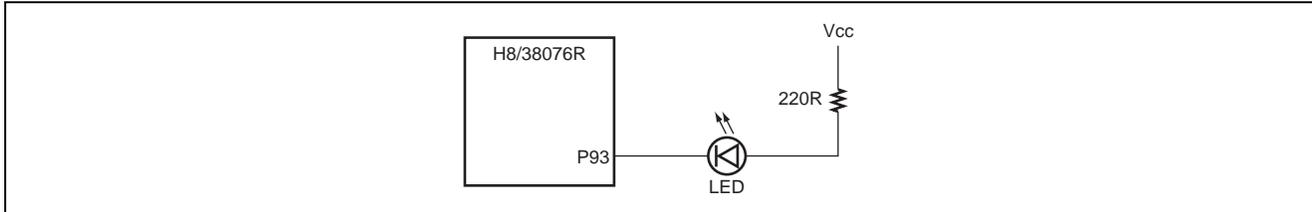

Figure 1 LED Flashing Operation Using Interval Function of Watchdog Timer
- A sample connection diagram is shown in figure 1.